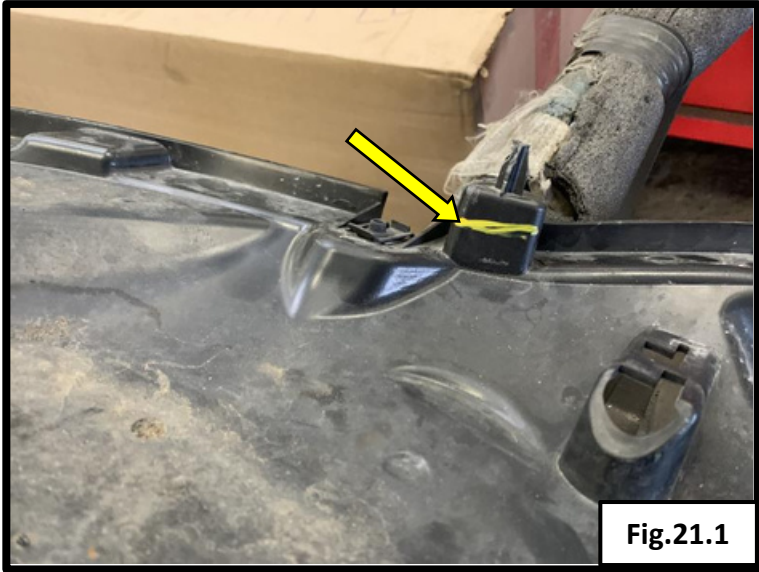

Fig.21.1
- Trim the alignment peg to level it off with the top of the raised edge of the splash guard. See Fig.21.1.